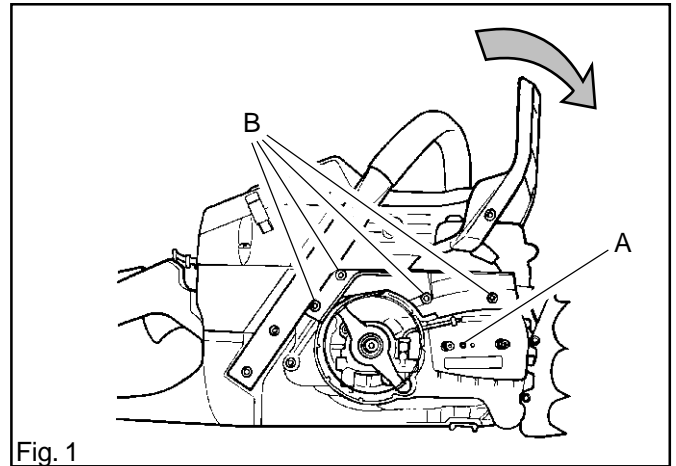

Fig. 1
2. Push the hand guard forward so that the chain brake is on. See fig. 1.
4. Remove the chain guide-plate (A). See fig. 1.
7. Remove the four screws (B) and the cover over the chain brake mechanism. See fig. 1.
5. Fit the cover over the chain brake mechanism. Four bolts (B). Tighten the bolts to 4 Nm. See fig. 1.
6. Fit the chain guide-plate with bolt (A). See fig. 1.